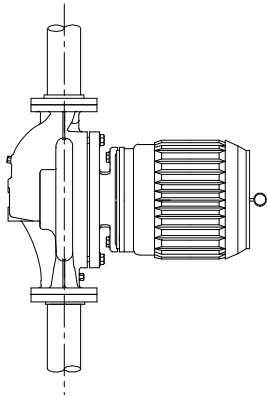

Fig. 2.9 Horizontal mounting –
- 2.9 Close coupled in-line units (Series 4360 & 4380) up to 15 hp / 11 kW may be installed with the shaft horizontal. (Fig. 2.9) For horizontal mounting of large units or Series 4300 Split-Coupled style consult the factory.